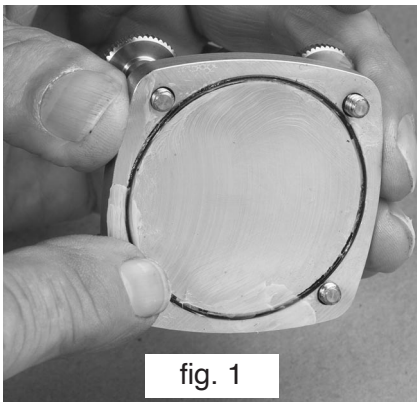

fig. 1
- 2) Check to be sure the o-ring remains in the groove in the back plate. If necessary, apply a small amount of general purpose grease (provided in zip-lock bag) over the o-ring and groove, to help hold the o-ring in place (fig. 1).